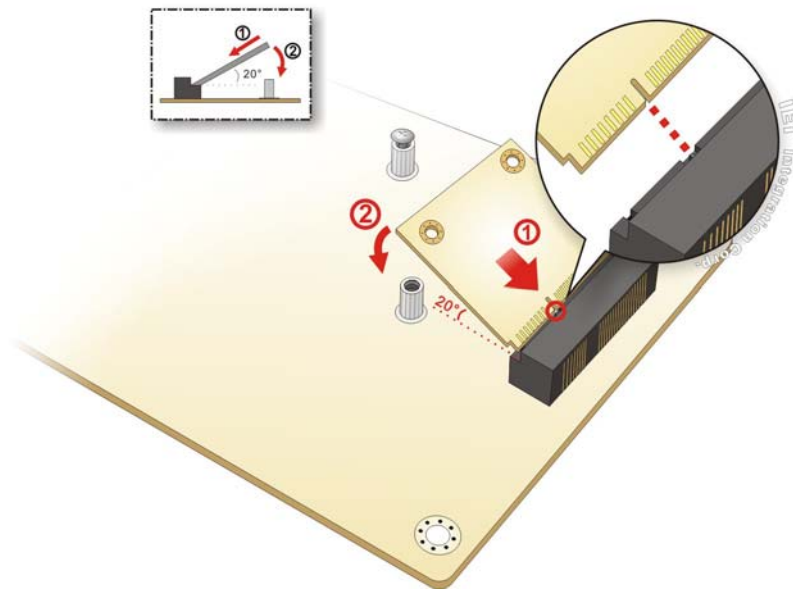

Figure 4-7: Inserting the Half-size PCIe Mini Card into the Slot at an Angle
Step 3: Insert into the socket at an angle. Line up the notch on the card with the notch on the slot. Slide the PCIe Mini card into the socket at an angle of about 20° (Figure 4-7).